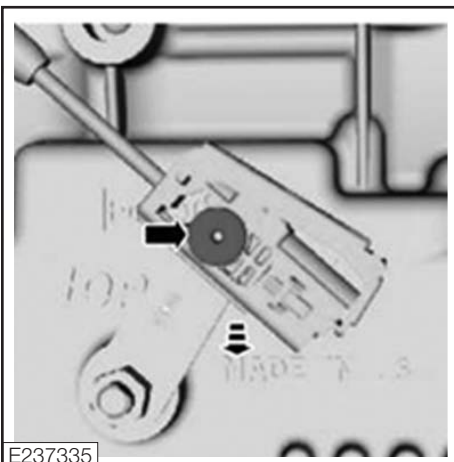

Figure 93
3. Disconnect the selector lever from the transmission manual lever (Fig. 93).